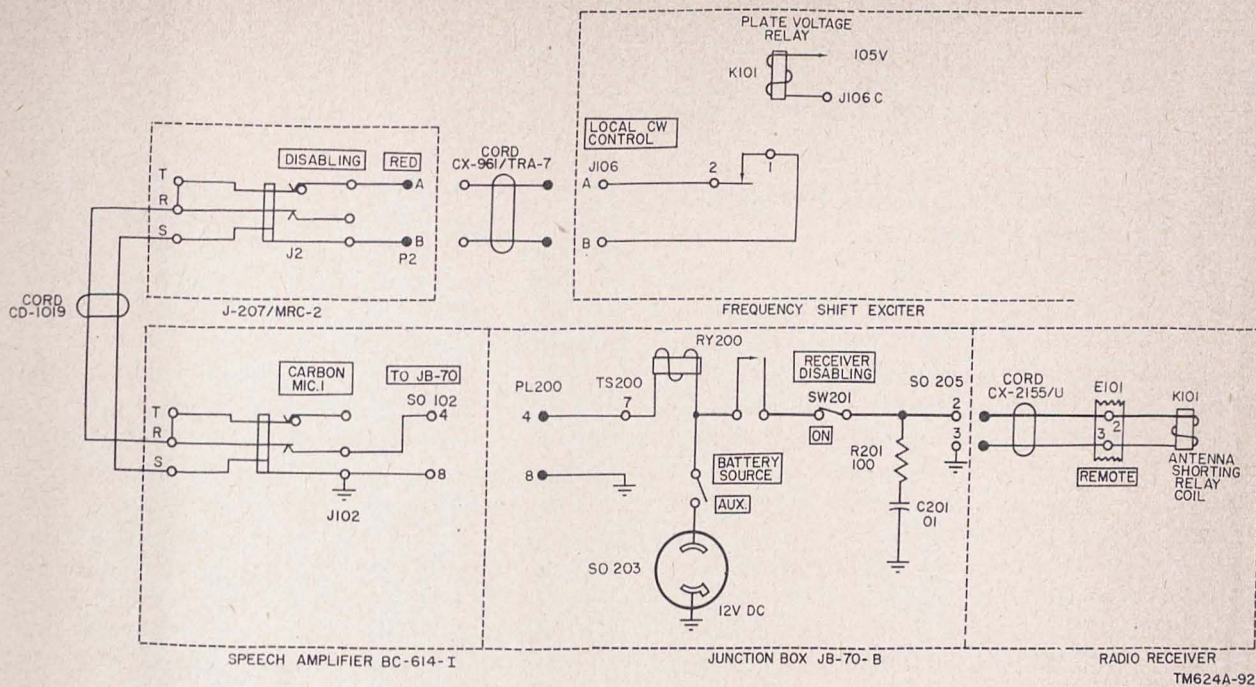

Figure 66. Radio Set AN/MRC-2D, transmitting shelter receiver disabling circuit.
- (1) The monitoring receiver is disabled during transmission (fig. 66) by grounding its antenna circuit internally. This is accomplished by operating disabling relays within the receiver. One side of the coil of relay RY200 in Junction Box JB-70-(\*) is supplied from a 12-volt dc source through the BATTERY SOURCE switch (par. 109d). The other side of the coil may be grounded in several ways as outlined in paragraph 109e through g. Figure 66 shows the circuit for relay RY200 operation during normal operation. The primary control is plate voltage relay K101 in the frequency-shift exciter unit. Operation of this relay completes the relay RY200 circuit to ground at the CARBON MIC. 1 jack
- (3) In Radio Set AN/MRC-2D, closing relay RY200 completes the 12-volt circuit from the relay contacts to antenna shorting relay K101 in Radio Receiver R-388/URR. This circuit is completed through RECEIVER DISABLING BC-342 switch SW201, terminal 2 of socket SO 205, Cord CX-2155/U, and the REMOTE terminal strip (fig. 66).